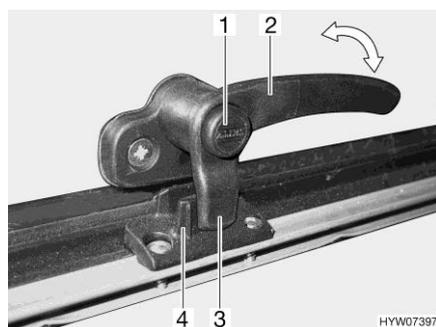
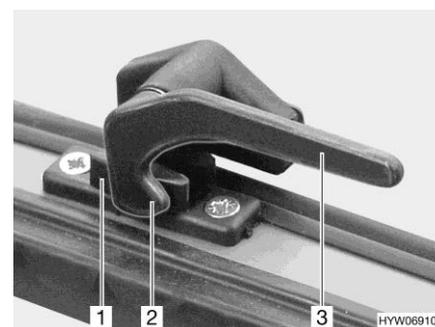

Fig. 88 Catch lever with safety knob in "closed" position
Fig. 89 Catch lever in "closed" position
- Press and hold the security button (Fig. 88,1), if present.
- Turn all catch levers (Fig. 88,2 or Fig. 89,3) a quarter turn towards the centre of the skylight.
- Turn all catch levers (Fig. 88,2 or Fig. 89,3) a quarter turn towards the frame. The locking catch (Fig. 88,3 or Fig. 89,2) is located on the inside of the skylight lock (Fig. 88,4 or Fig. 89,1).
- "Firmly closed" (Fig. 88 and Fig. 89)